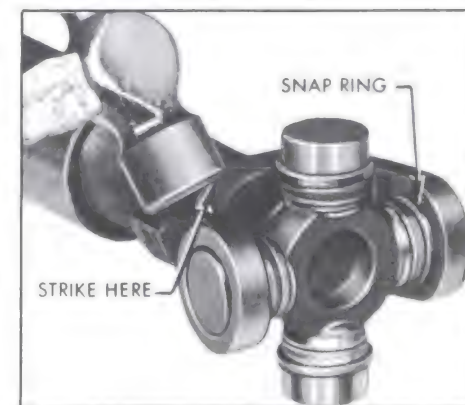

Figure 6-63—Seating U-Joint Snap Rings
4. Strike the yoke with a hammer to fully seat the snap rings against the yoke. Turn the spider to make certain that it is free. See Figure 6-63.